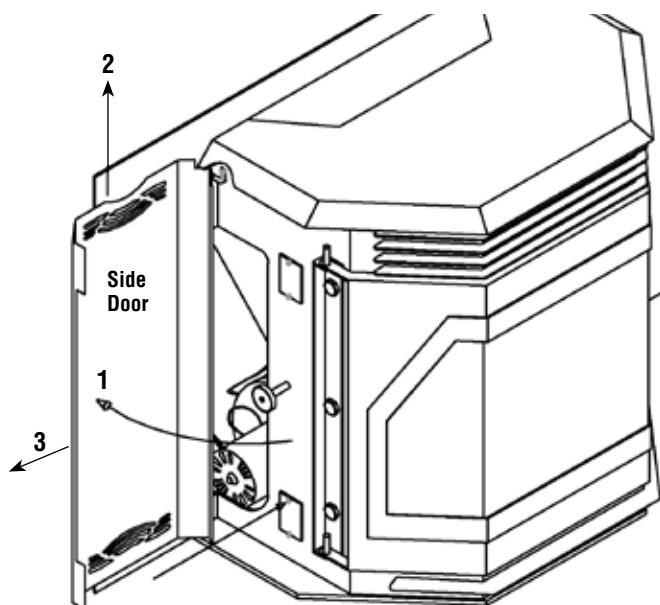

Figure 4
1. Remove the side doors (see **Figure 4**) to access the surround mounting brackets. Remove the speed nuts from the parts bag found in the firebox. Install the six speed nuts (with the flat surface forward) on the six surround mounting bracket holes, three on each side of the insert. A flat-bladed screwdriver may help in installing the nuts. See **Figure 1**.
See Figure 4